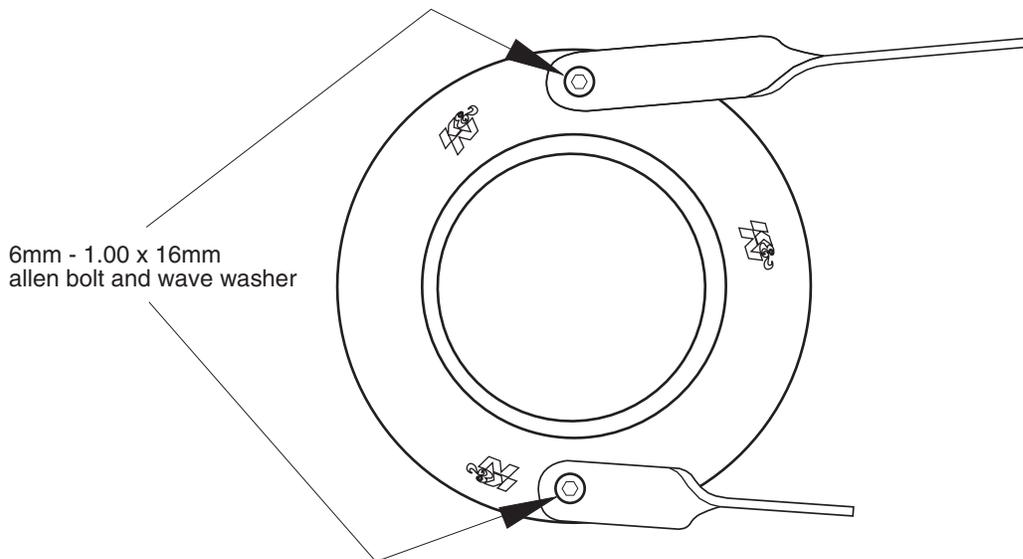

fig. 1
- 3) Install the two "twist" brackets on the adapter with the hardware provided. Do not tighten completely at this time. (see fig.1)